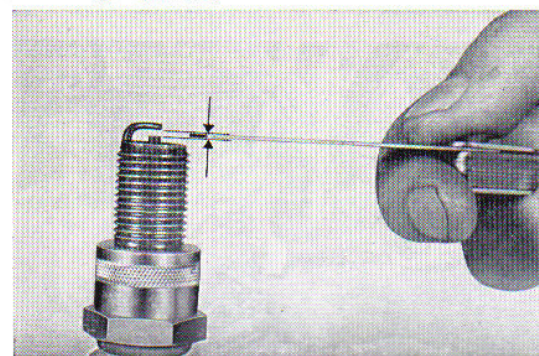

Fig. 6.13 Spark plug measuring (0.7~0.8mm)
- b. After cleaning, adjust the electrode gap. Adjust with a thickness gauge so that the gap is 0.7 to 0.8 mm. (0.028~0.32 in) (Fig. 6.13)